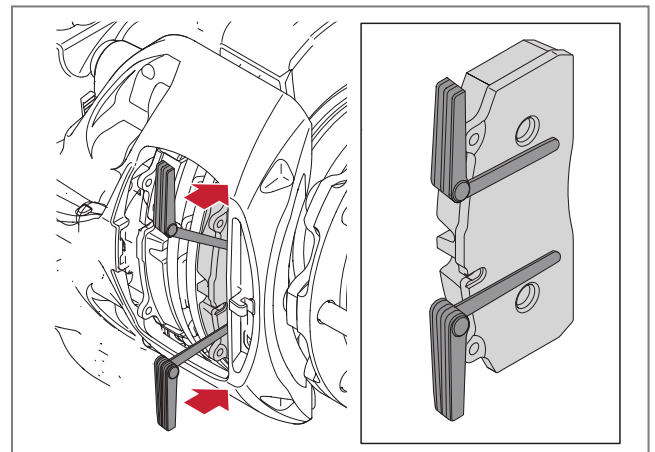

Fig. 17 - Correct location of the feeler gauges
4. Insert two feeler gauges in between the brake calliper and the outer brake pad to measure the clearance. Position the feeler gauges in the upper and lower part of the brake pad back plate so that the axial clearance can be measured, see ► *Fig. 17*.